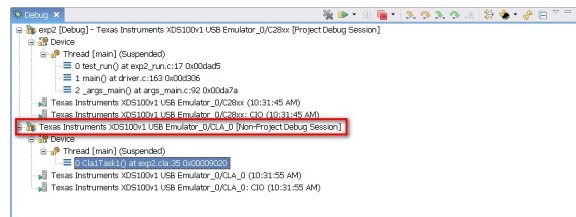

Figure 5.6: CLA Debug Session
- (a) Click on the CLA debug session (highlighted in Fig. 5.6)